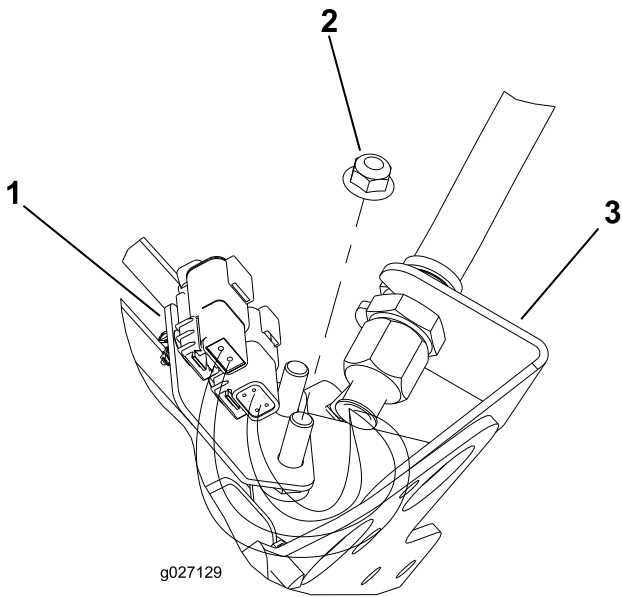
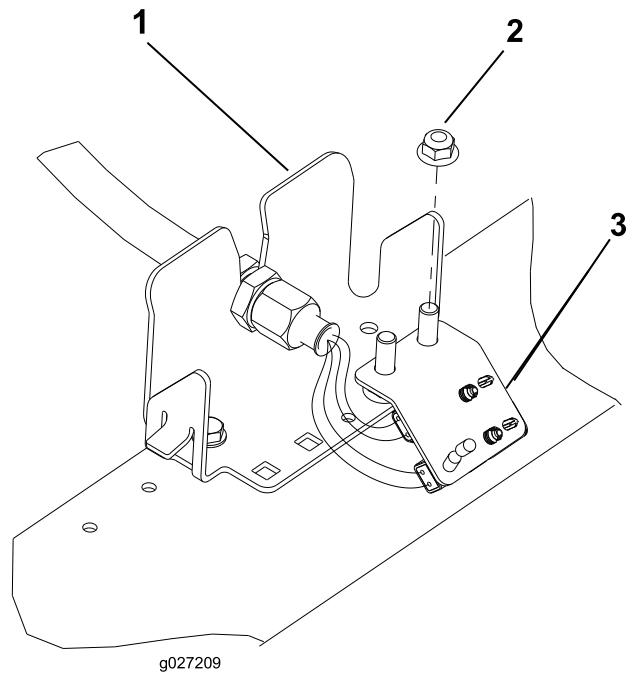

Figure 13
Figure 16
6. Repeat the procedure on the remaining 4 bulkhead locations as shown in Figure 13 through Figure 16.